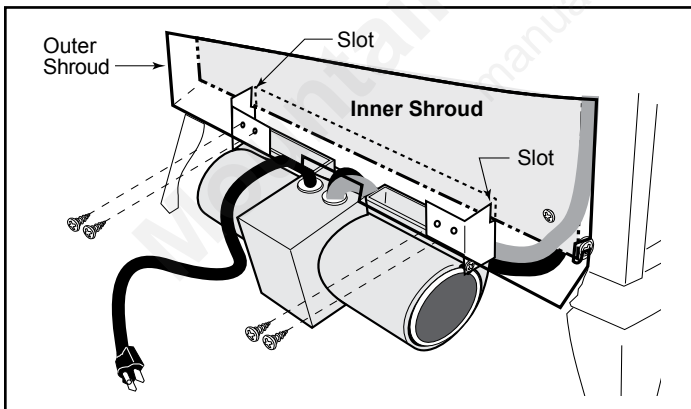

Figure 37 - Position the fan to engage the inner shroud with the fan bracket slots and secure with sheet metal screws.
6. Position the fan assembly so the ducts slide between the inner and outer shroud. The inner shroud should engage with the two (2) slots in the ends of the bracket so that bracket and shroud are interlocked. (Figure 37) Secure the bracket with the four (4) sheet metal screws provided in the finish bag.